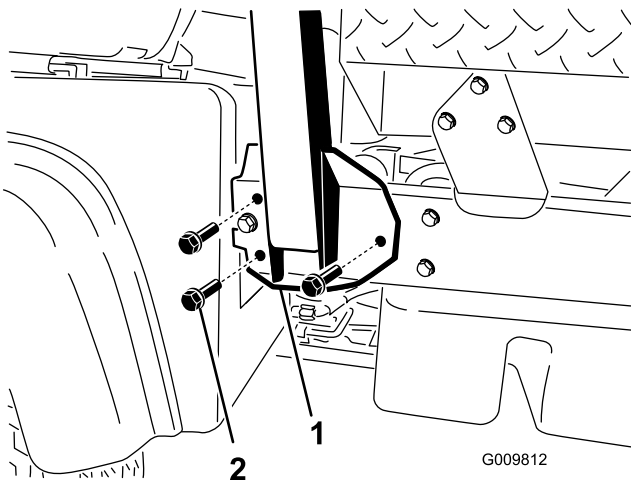

Figure 4
1. Align each side of the ROPS with the mounting holes on each side of vehicle frame as shown in Figure 4.